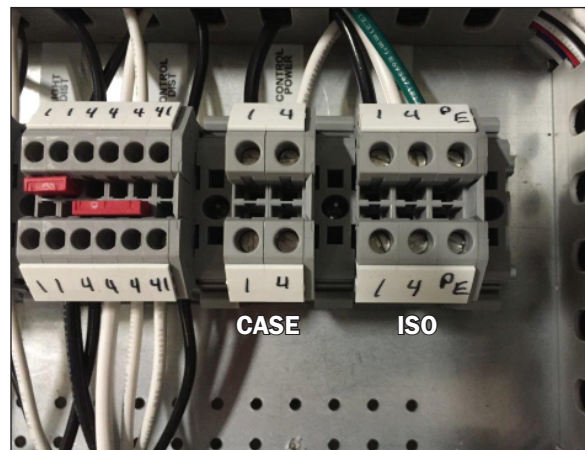

Fig. 8 Field wire connections
2. Locations for the case power and ISO (isolated ground receptacle) power 120V wire connections (Fig. 8) can be found in the raceway.